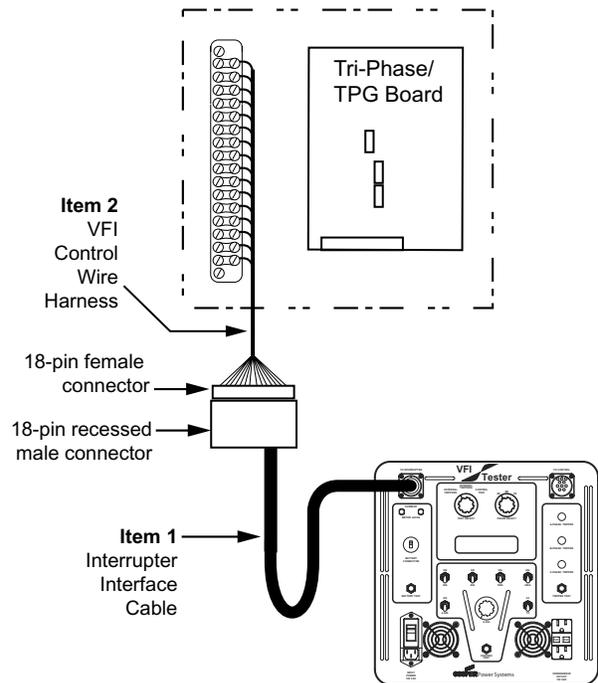

Figure 8. Connection of the VFI Tester to top-hinged VFI units with TPG controls and all VFI units for external Flux-shift Tripper Test.
3. Connect the 14-pin female/18-pin male interrupter interface cable (Item 1) to the VFI Tester at the interrupter port. Refer to Figure 8 for steps 3 through 17.